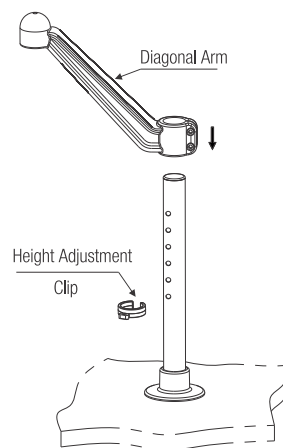

Fig. 2
3. Drill Ø10.5mm hole throughout on table top on the desired position & Mount the Base as shown in Fig. 2.
2. Slide the double arm base onto the base & tighten the grub screw as shown in fig.2.
2. Slide the double arm base onto the base & tighten the grub screw as shown in Fig.2.
3. Clip the height adjustment clip onto one of the holes on the vertical pole and slide the diagonal arm on to the pole from top till the bottom face of the arm rests on the height adjustment clip as shown in Fig. 2.
2. Clip the height adjustment clip onto one of the holes on the Vertical Pole, & slide the diagonal arm on to the pole from top till the bottom face of the arm rests on the height adjustment clip, as shown in Fig. 2.
3. Clip the height adjustment clip on to one of the holes on the vertical pole and slide the diagonal arm on to the pole from top till the bottom face of the arm rests on the height adjustment clip as shown in Fig. 2. Repeat for the second diagonal arm.